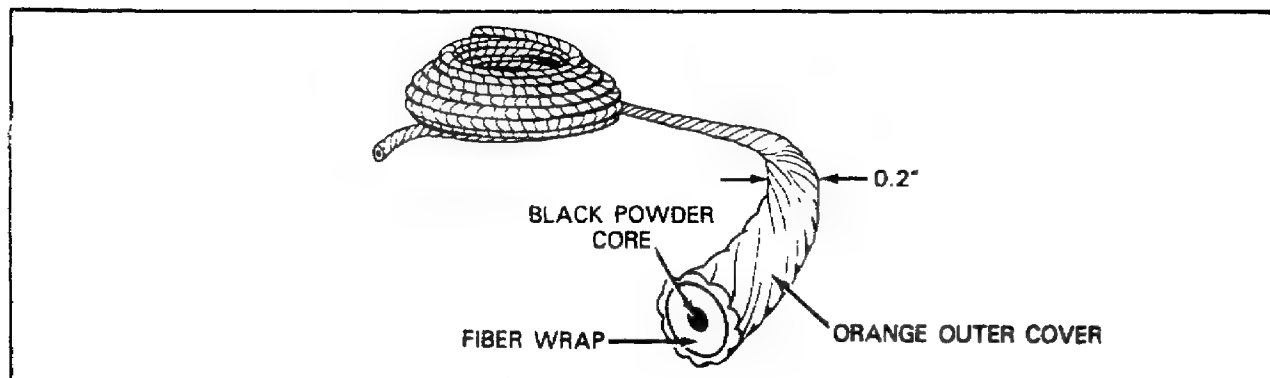

Figure 92. Fuse, Blasting, Time (Safety Fuse).
**Safety Fuse.** Safety fuse (Figure 92) consists of a fiber cord with a core of black powder. The orange outer surface is waterproof. When the fuse is ignited, a flame travels through the black powder core at 30 to 45 seconds per foot. Safety fuse is issued in 50-foot rolls and packed in sealed metal cans in wooden boxes. There are 4,000 feet per wooden box. Safety fuse is identified by its orange exterior and black core.